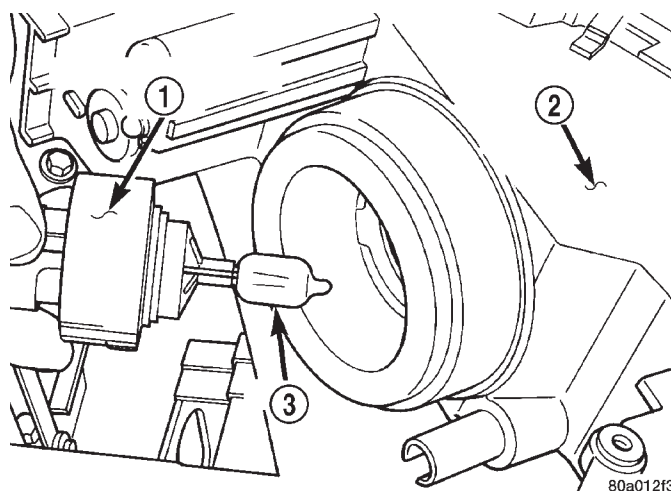

Fig. 1 Headlamp Bulb
- (1) Release hood latch and open hood.
- (2) Remove screws attaching headlamp module to radiator closure panel.
- (3) Remove headlamp module from radiator closure panel.
- (4) Rotate retaining ring counterclockwise one quarter turn.
- (5) Disconnect wire connector from back of headlamp bulb.
- (6) Remove retaining ring from headlamp module.
- (7) Pull bulb from headlamp module (Fig. 1).